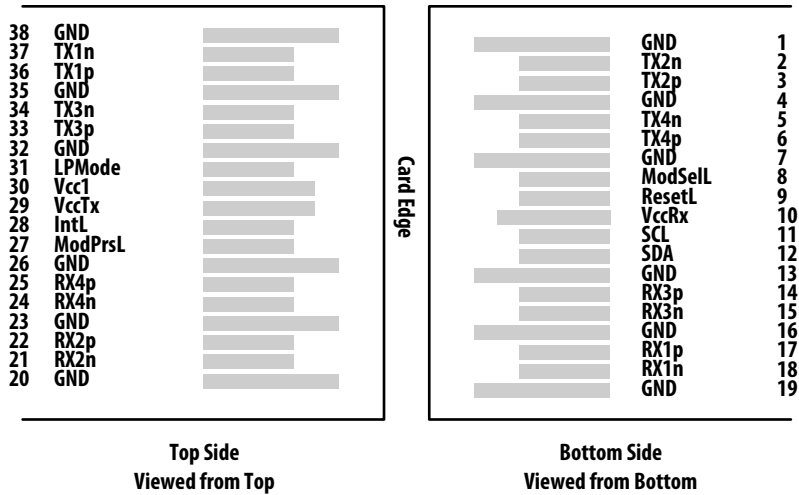

Figure 6. Host Board Pattern for QSFP Transceiver – Top View
3. Power Supply Noise is defined as the peak-to-peak noise amplitude over the frequency range at the host supply side of the recommended power supply filter with the module and recommended filter in place. Voltage levels including peak-to-peak noise are limited to the recommended operating range of the associated power supply. See Figure 6 for recommended power supply filter.